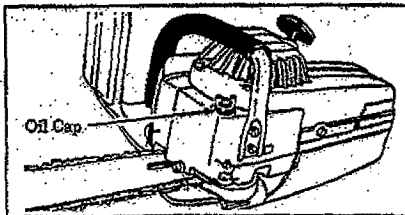

Figure 13
- Turn saw on its side with oil cap up. Figure 13.